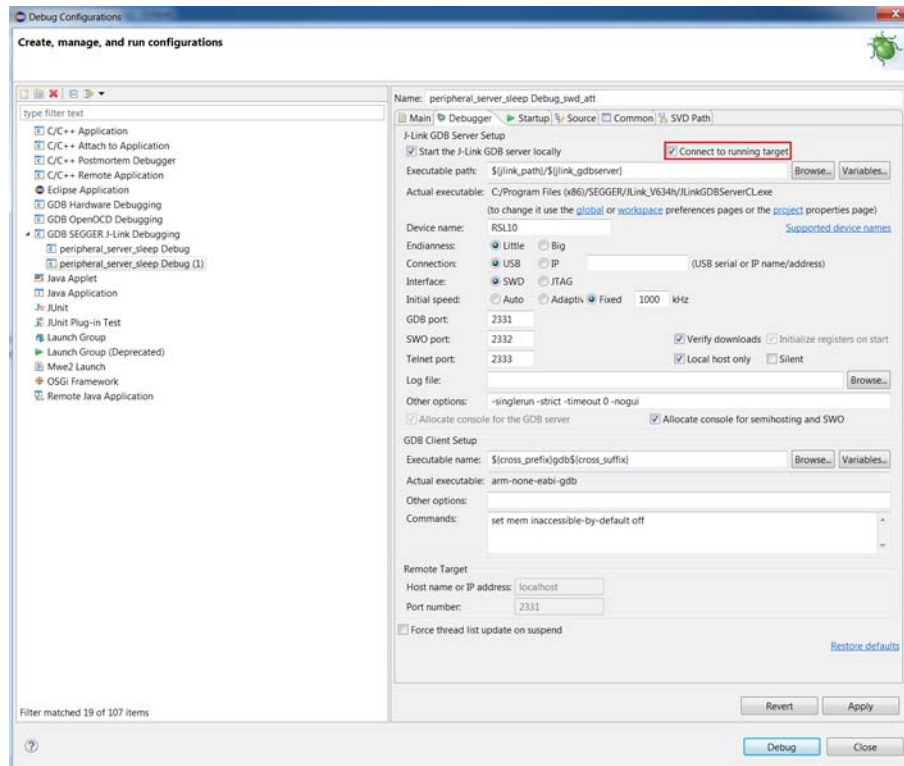
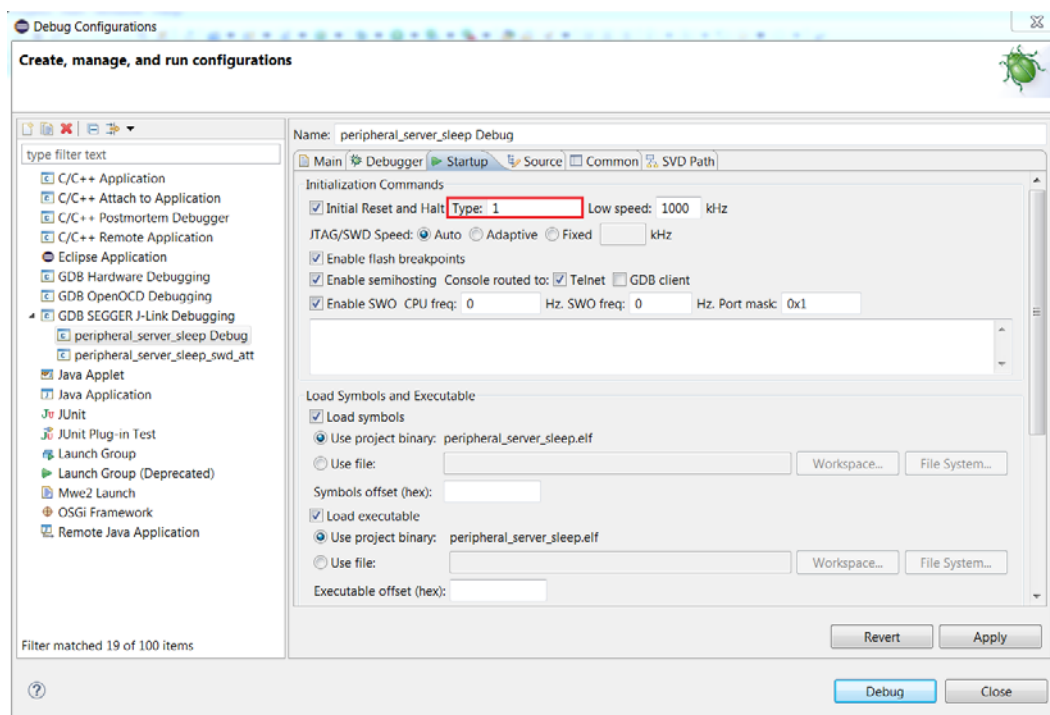

Figure 43. Debugger Tab: Debug Session that Connects to the Running Target
Figure 44. Startup Tab: Debug Session that Connects to the Running Target
- ii. Adjust the displayed values for your configuration then click on **Apply** (see Figure 43 and Figure 44 on page 37).
NOTE: If you are having trouble connecting to the running target, you can perform a software recovery by setting the Reset Type to 1 in the Debug session configuration as shown in Figure 44. The default Reset type is set to 0, which only resets the Arm Cortex-M3 core and leaves the device/peripherals in a state where the J-Link cannot reconnect. By setting it to 1, you ensure that not only the Arm Cortex-M3 core is reset, but also all the peripherals. If this does not work, see Section 6.4.1, “Downloading Firmware in Sleep Mode” on page 40 for more ideas.